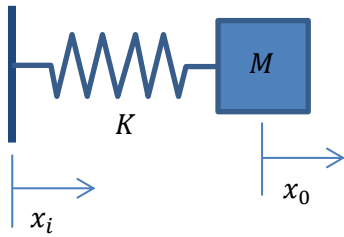

Figure 1a
1. Derive expressions for the transfer functions that relate input force  $F(t)$ , and output displacement  $x(t)$ , of the spring and mass systems shown in figures 1a and 1b.
3. Derive expressions for the transfer functions that relate input  $x_i$ , and output  $x_0$ , of the spring/mass systems shown in figures 1a and 1b.